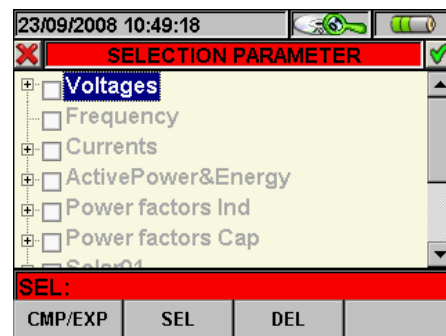

Fig. 140: Parameter selection
1. Press the **F1** key (or the **PARAM** item on the display) to access the page of selectable parameters (Fig. 140).
- The **F1** key (or the **PARAM** item on the display), to access the page of selectable parameters (Fig. 140)